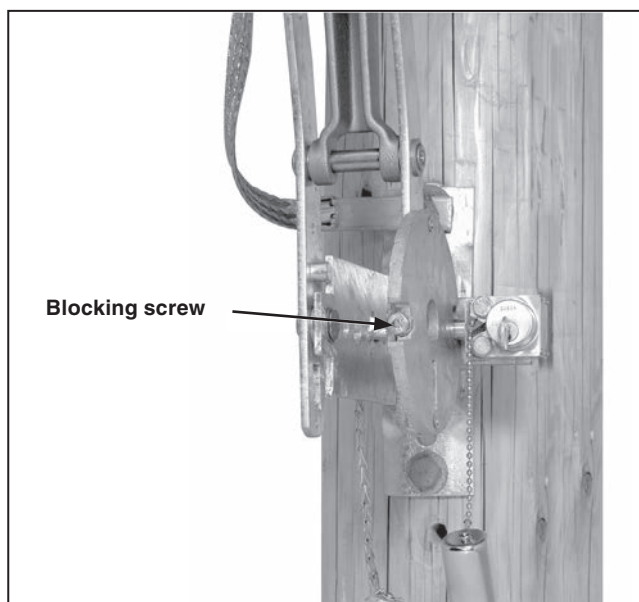

Figure 35. Blocking the slot in the interlock disc.
STEP 34. Block one of the two slots in the locking disc with the blocking screw provided. (The slot to be blocked depends on whether a locked-open or locked-closed arrangement is required.) See Figure 35.